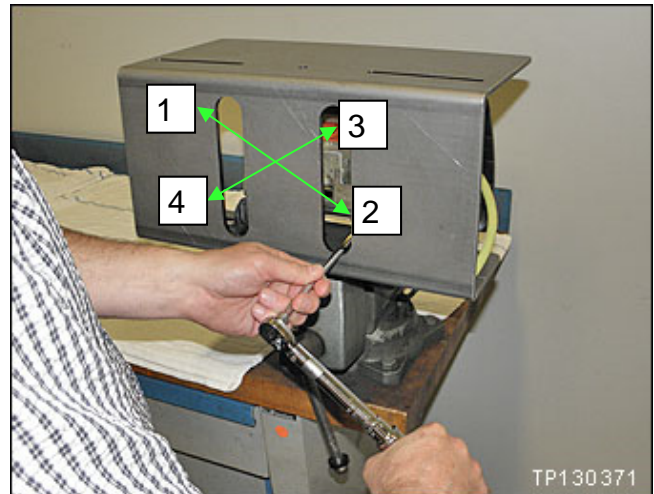

Figure 46
46. Torque the four (4) inflator securing nuts in the sequence shown in Figure 46.